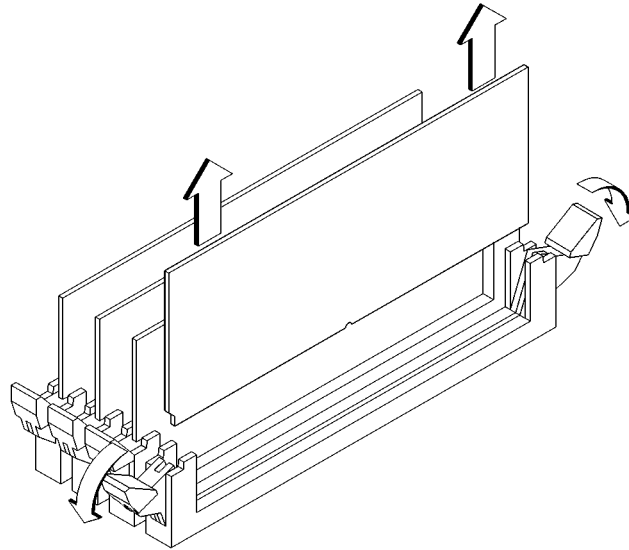

Figure 4 **Removing a Memory Module**
- 2 To remove a memory module, push the ejector tabs on each side of the module. Lift the memory module up and out of the connector and place it on a static-free surface. Figure 4 shows how to remove a memory module.